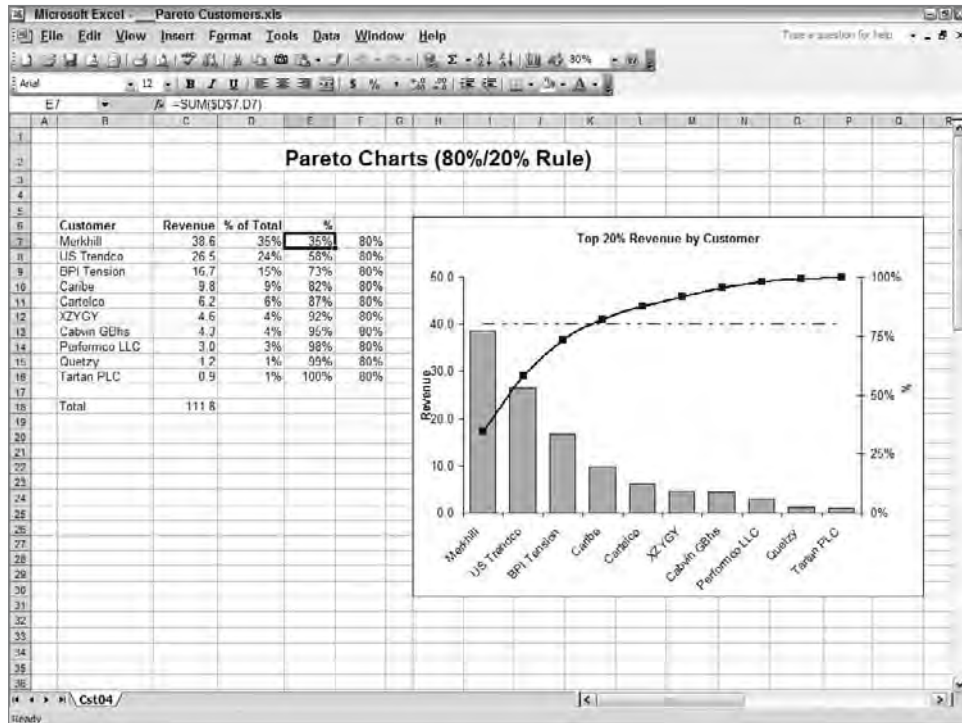

Figure 24.14: Pareto charts help you identify the 20% that has 80% of the impact.
Figure 24.14 shows a Pareto chart that calculates which 20% of customers generate 80% of revenue. In this chart, it's easy to see that the first four customers contribute 80% of the revenue. In organizations with a large customer base, this type of analysis can help you identify where to focus your relationships, your quality control, your product features, and so forth.
1. Enter data as shown in B7:C16 of Figure 24.14. Notice that the data is sorted in descending order by Revenue.
Your chart will now appear almost like the Pareto chart in Figure 24.14. All that remains is a little formatting.